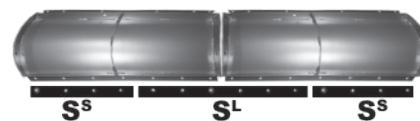

fig.4
4. Attach the scraper (three pieces, a long, S^L and two short ones, S^S; fig.4, at left) to the front lower edge of the full blade using 25 mm (1") x M10 grade 8.8 carriage bolts, 10 mm washers, and M10 Nylock nuts (fig.5). The long piece of the scraper overlaps both halves of the blade. The shorter piece fills in the rest. The carriage bolts are inserted so that their domed caps are at the front of scraper, which lies on the lower front (concave side) edge of the blade. The nuts screw on from the back (convex) side of the plow blade. Tighten the nuts.